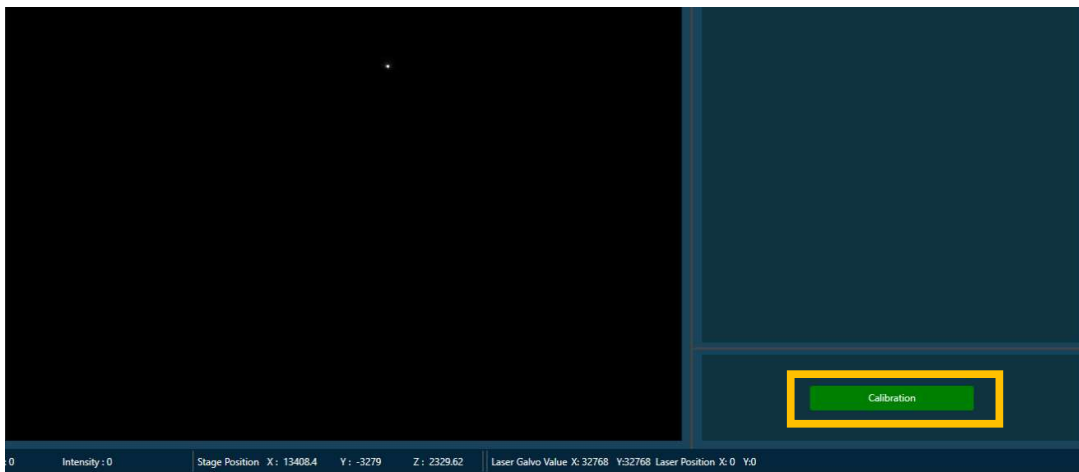

Fig. 12 – Calibration Button
1. Click the Calibration button at the lower right of the window (Fig. 12). The software will take about one minute to adjust fine focus of the laser and enter drift free mode (PFS). If an error occurs, see the Troubleshooting section below.